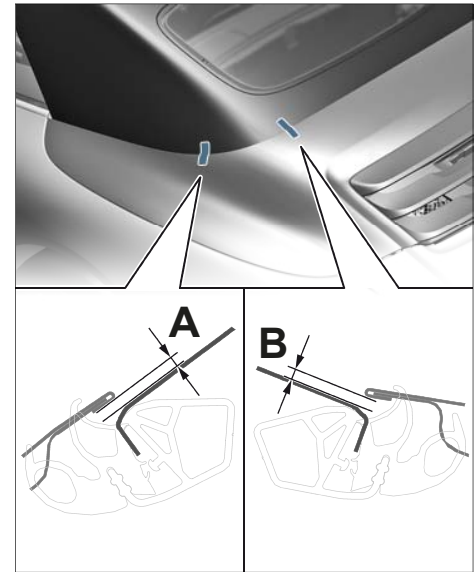

Figure 4
- 5 Once you have closed the convertible top, check the gap dimensions \Rightarrow Figure 4 -A, B- between the convertible top and convertible-top compartment lid and correct them if necessary by adjusting the tension ropes.